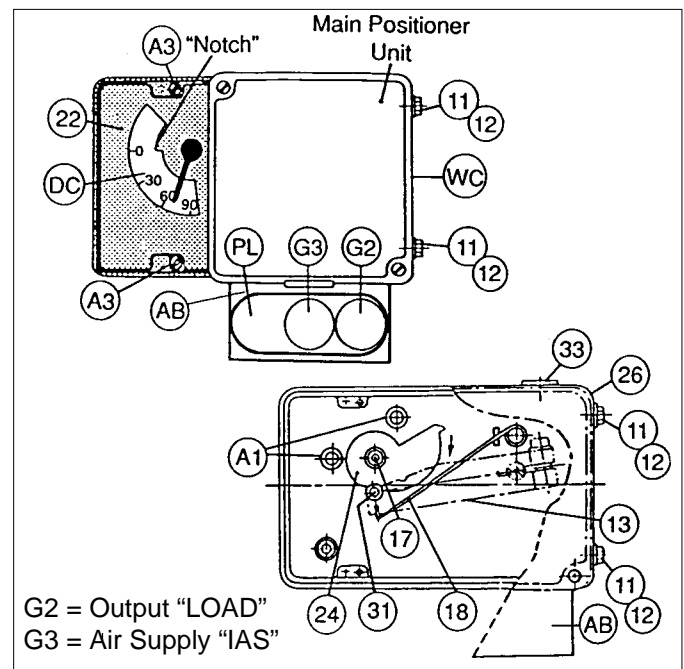

Figure 5
11. Remove the two plastic screws in the right-side of the main positioner unit where cap screws (11) would be inserted. (See Figure 5.)
12. Begin to set the main positioner unit near its final position on baseplate (26). Using needle nose pliers grasp compensating spring (18) and "hook" the end of the spring (18) under the lower side of the feedback lever (13) as indicated in Figure 5.
22. Place decal (DC) onto indicator cover (22) backside as indicated in Figure 5. Trim the decal to remove the "120°" indication. Align the "0°" position to the notch of the indicator cover (22); the "0°", "30°", "60°" and "90°" tick-marks should touch the outside arc of the clear portion of indicator cover (22).
23. Check the valve's actual position of the plug. Place plastic red pointer (34) just barely onto post-end screw (23). Calibrate pointer (34) to indicator cover (22) by repositioning pointer (34) as required. When calibration is satisfactory, press pointer (34) firmly down over post-end screw (23).
24. Fasten clear indicator cover (22) into place using two cap screws (A3).